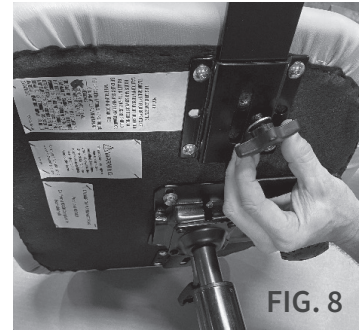

FIG. 8
8. Slide the **Adjustable Armrest** into the **Armrest Bracket** located under each side of the **Upholstered Seat**. Secure the **Adjustable Armrest** by installing the **Arm Support Adjustment Knob** and **Hardware** through the slot in the **Adjustable Armrest** and into the threaded holes of the **mounting plate** (Fig. 8).